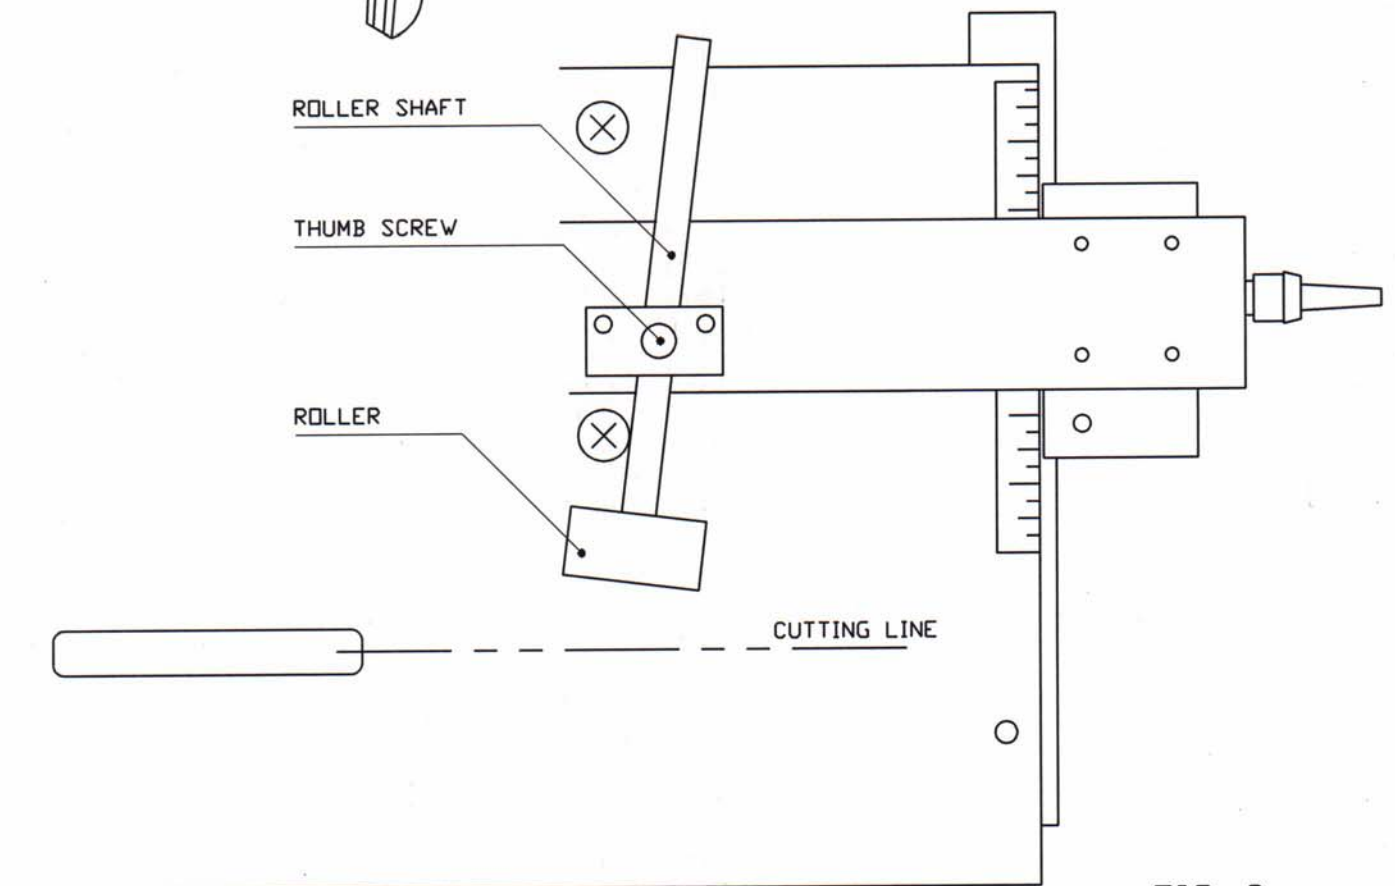

FIG. 3
- b) Slide the roller shaft until roller is approximately half way between cutting blades and fence (see Fig. 3)